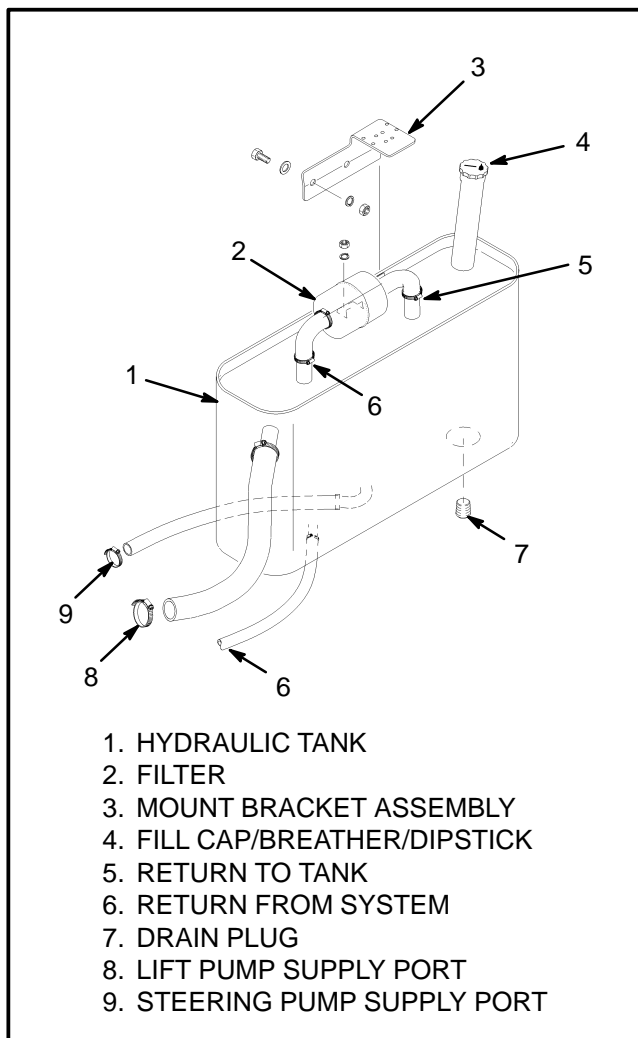

FIGURE 10. J2.00–3.20XM (J40–65XM)
Tank Removal (See FIGURE 10.)
6. Remove the screws from the bracket that fastens the bracket holding the hydraulic tank in the truck frame. See item 3 of FIGURE 10. Remove the bracket assembly.
Assembly, Three–Stage FFL Mast (See FIGURE 10.)